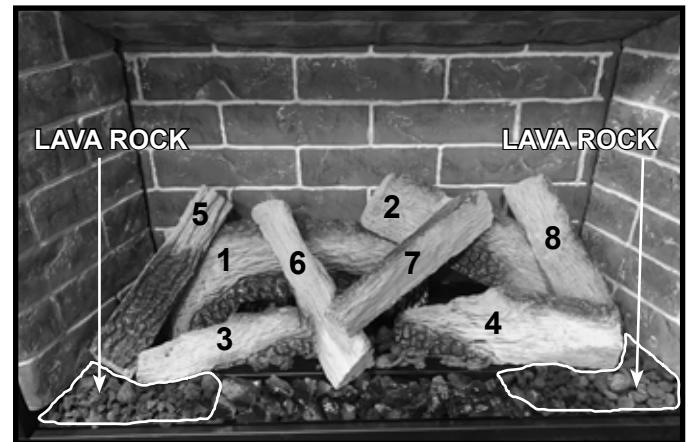

Figure 12 Lava Rock Locations
10. This product is shipped with a bag of Lava Rock. Approximately one third of the bag will be used for initial setup, the remainder should be placed in the manual bag assembly and left with the homeowner. Do not store beneath the appliance. Install Lava Rock by placing it (by hand) in the locations denoted by arrows in Figure 12. Care should be taken to avoid placing lava rock on the burner.